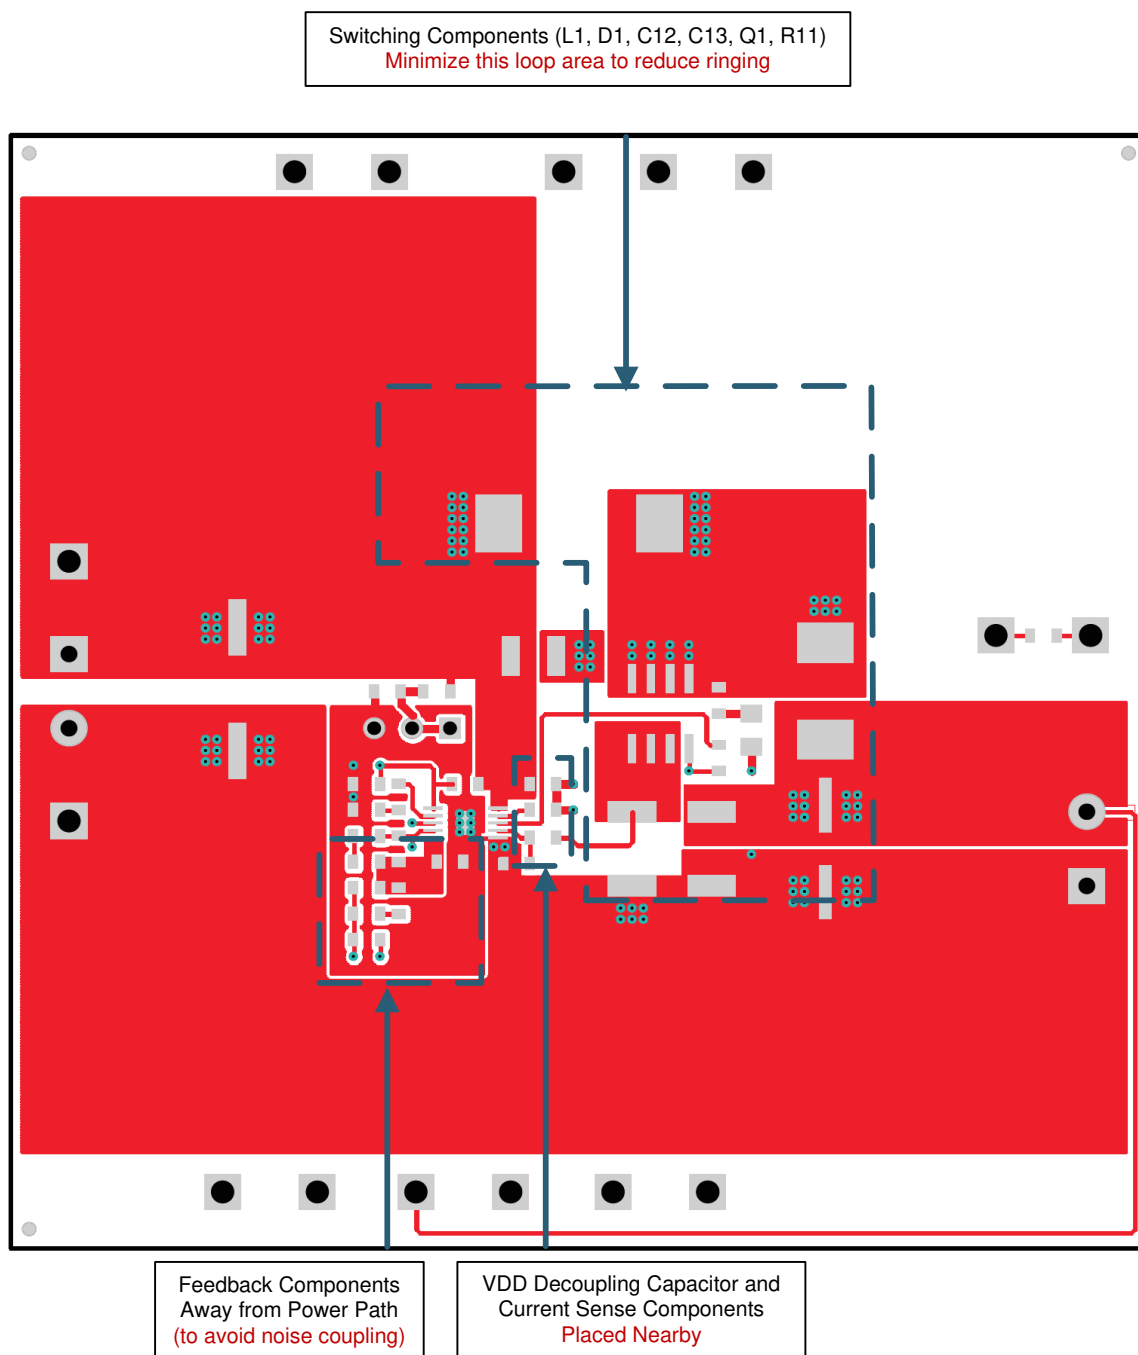

Figure 36. TPS40210 Top Layer
- All other analog components should be kept close to the IC such as those connected to RC, SS, COMP, FB, and ISNS. It is recommend to isolate this ground return used for these components to create a "quiet" ground minimizing any noise as shown in Figure 36.